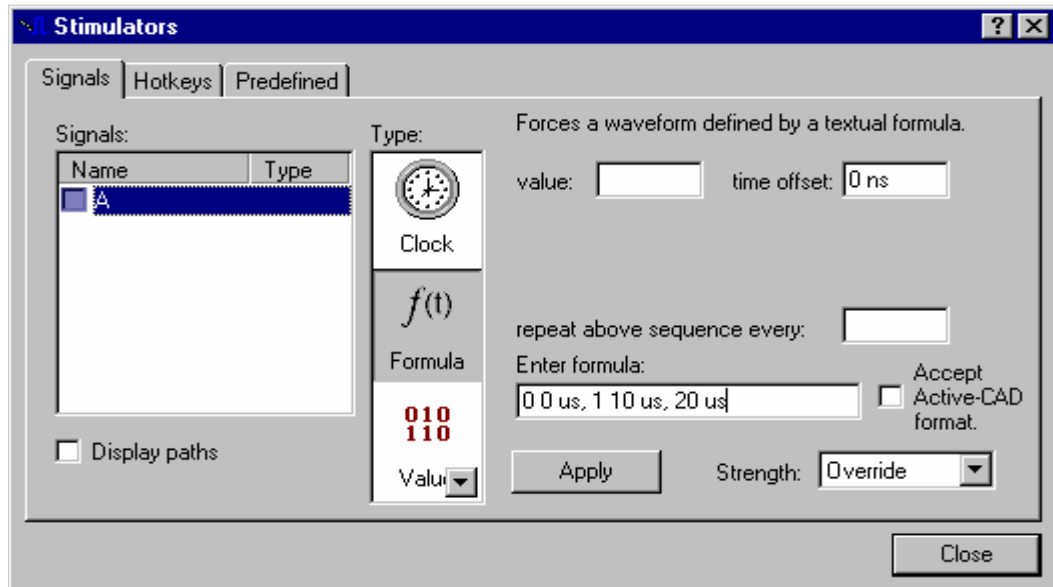

Figure 47
2. In the “Enter formula” field, enter the value (1 or 0) followed by a space and the time at which to assert this value. For example, the following formula will cause a signal to start out at 1, then change to 0 at 10 us and back to 1 at 20 us: 1 0 us, 0 10 us, 1 20 us (see Figure 47).